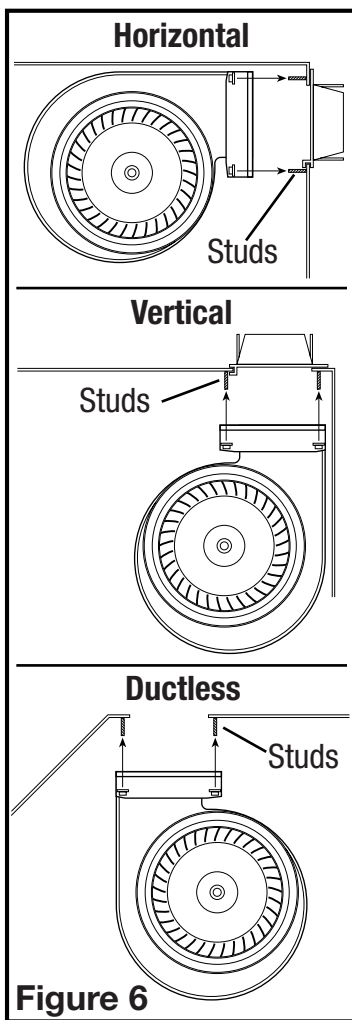

Figure 6
1. With the opening of the blower facing the direction you have chosen to duct the hood, place the blower mounting brackets (brackets on either side of the blower) over the blower mounting studs on the interior of the hood (Figure 6).
2. Using the 4 nuts removed earlier, secure the blower in place. Start the nuts by hand first, then tighten with a 3/8" nut driver or ratchet until they are fully seated (Figure 6).